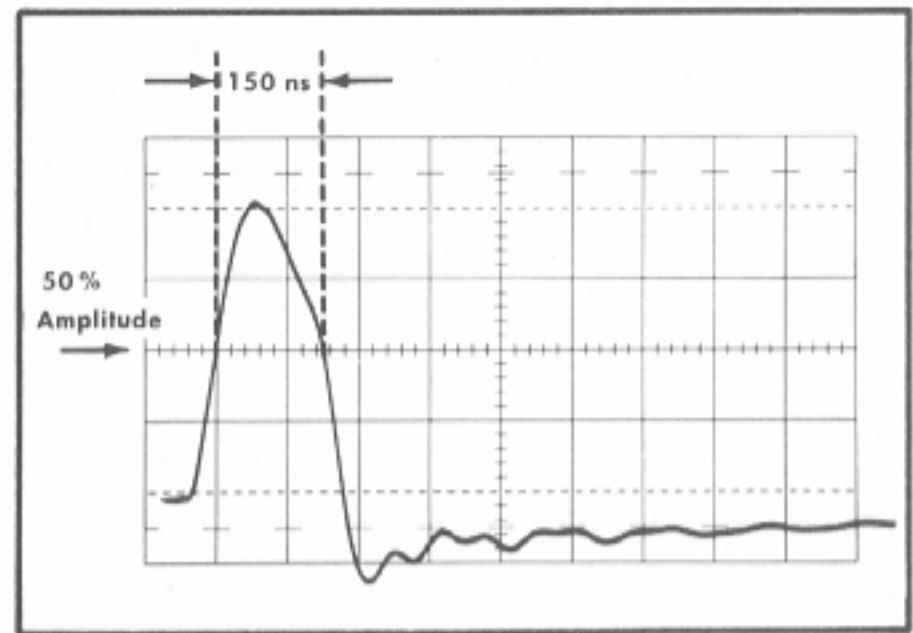

Fig. 6-11. Typical CRT display of Memory Gate Pulse.
- Adjust the MEMORY GATE WIDTH control on the Pulse Generator board for 150 ns pulse width as seen on the Test Oscilloscope. Pulse width is measured at the 50% amplitude points. See Fig. 6-11.